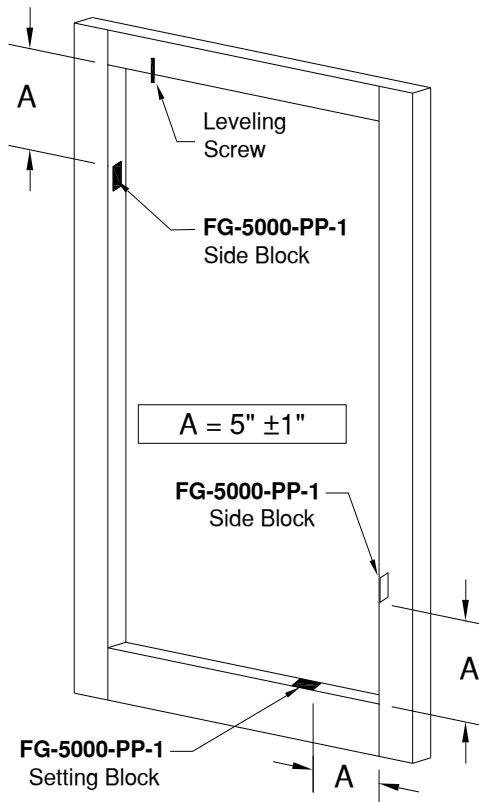

Figure 23: Locating Setting Blocks / Side Blocks
11.2.1 Install **FG-5000-PP-1** Setting Blocks / Side Blocks per *Figure 23*. The blocks are adhesive backed for easy installation. Blocks may be doubled as required to compensate for glass tolerances.